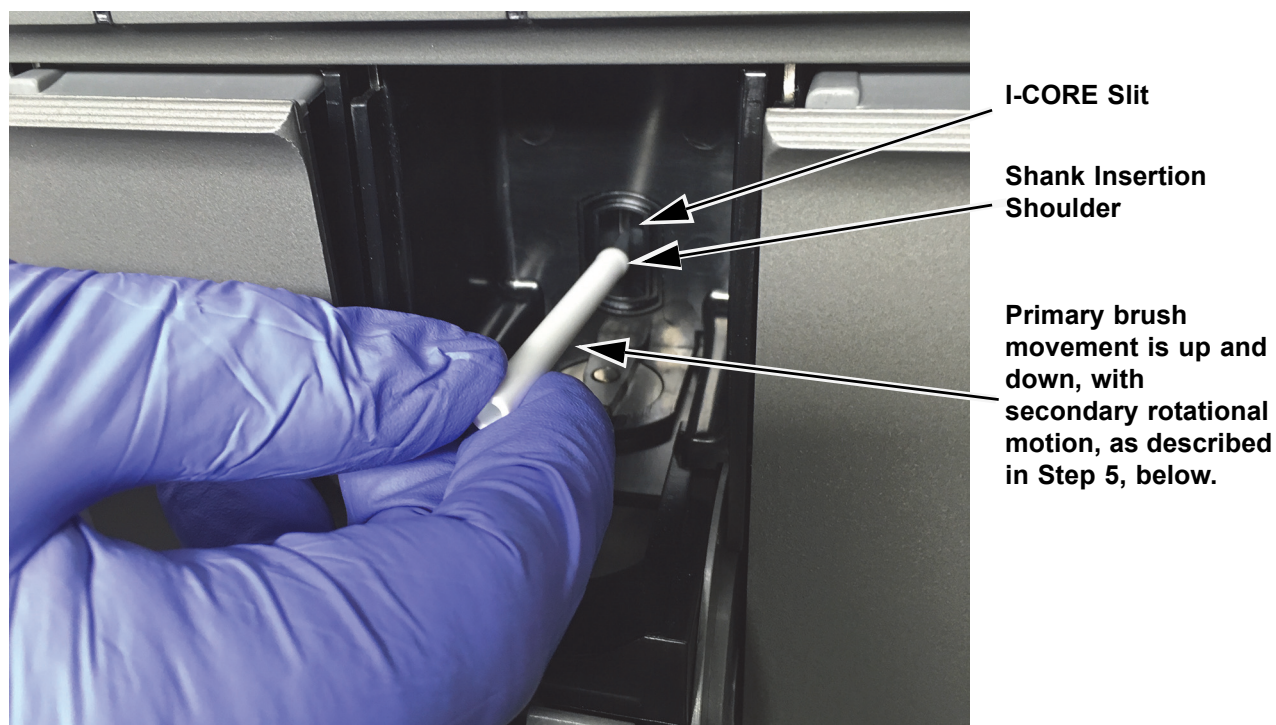

Figure 9-7. Inserting the Cleaning Brush into the I-CORE Slit
4. Wearing disposable gloves, insert the brush into the I-CORE slit in a tilted manner up to the shank insertion shoulder, as shown in Figure 9-7.